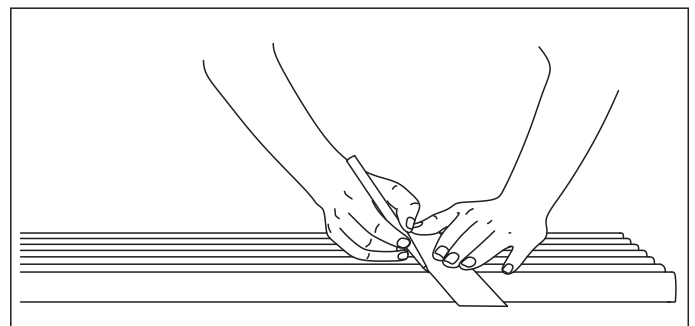

Fig. 15
3. With a straight edge mark the location of the cable on to the remaining profiles (Fig.15).